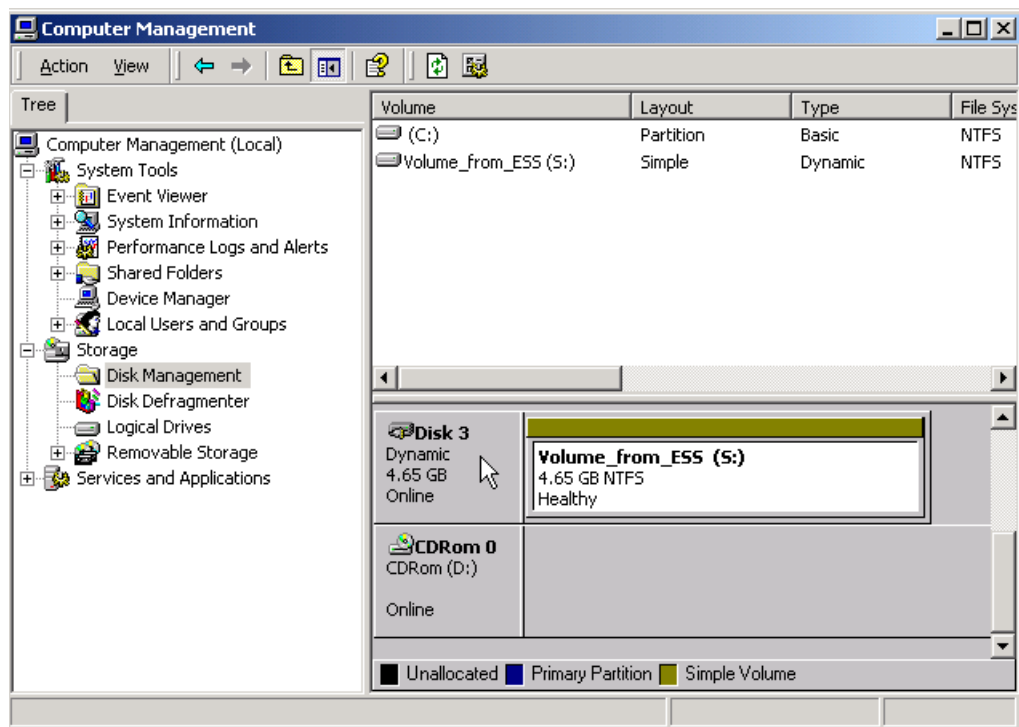

Figure 12-31 The volume S: Volume\_from\_ESS is online
9. Restart the Windows 2000 host system. Figure 12-31 shows the result.